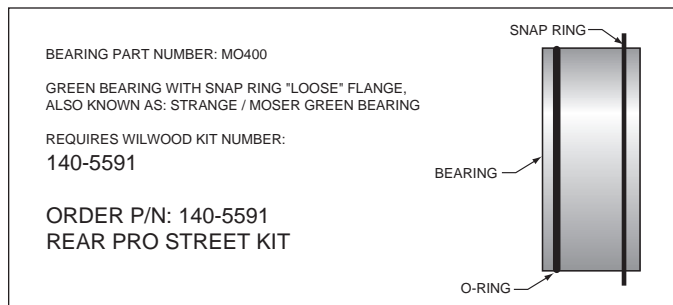

Figure 2. Loose Fit Flange Bearing Configuration
- Determine that the appropriate snap ring style Green bearing has been installed on the axle, as shown in Figure 2.